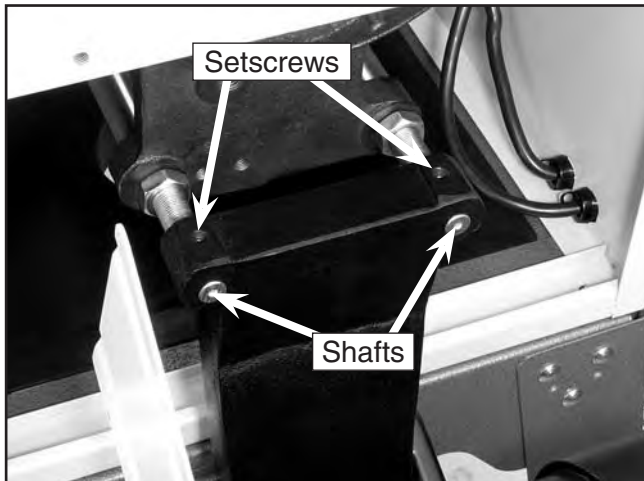

Figure 20. Installed motor assembly.
- Slide the motor assembly onto the two shafts protruding from the back of the saw (**Figure 20**).
- Using a 4mm Allen wrench, tighten the two setscrews (**Figure 20**) in the motor bracket to secure the motor assembly to the shafts.